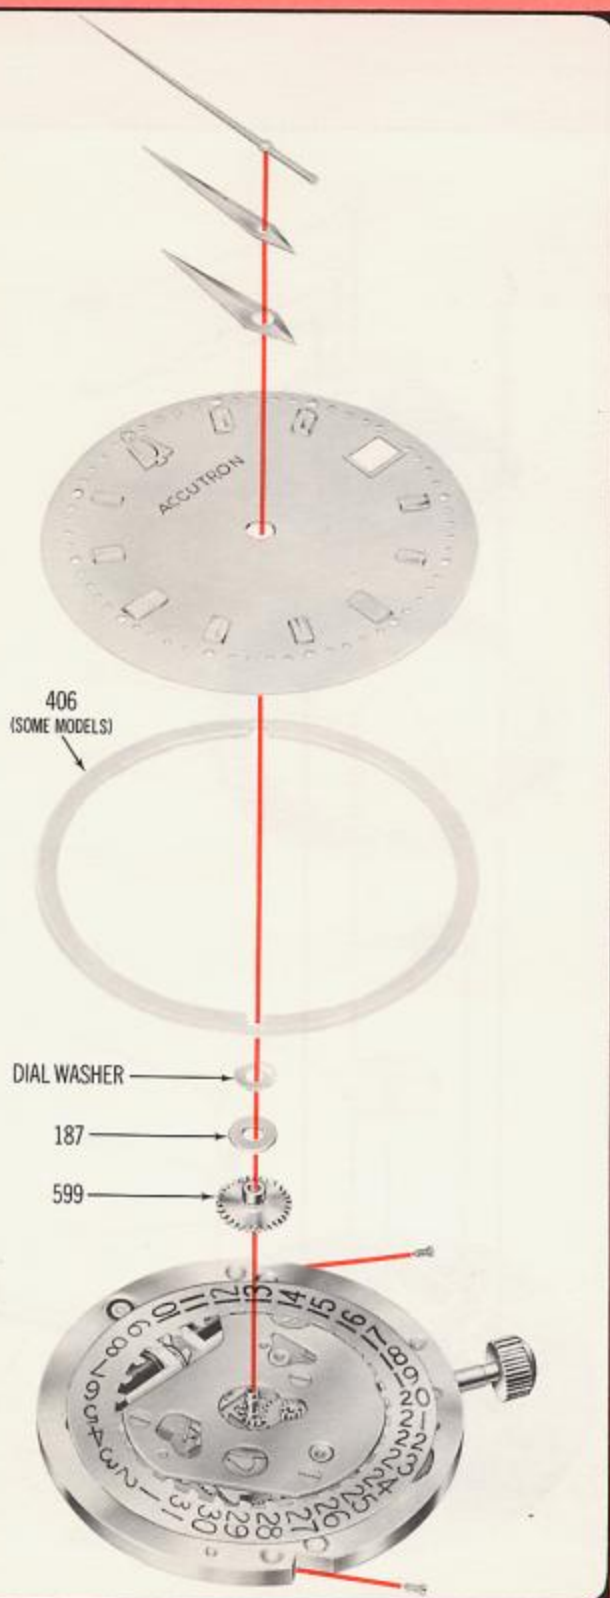

Fig. 44
- 406** Dial Support Ring (Some Models—See Fig. 44)